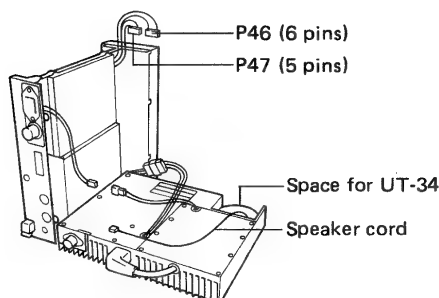

Fig. 1
- 2) Remove the PA UNIT. (Fig. 1)
- 1) Remove the top and bottom covers. (Fig. 1 on p. 23)